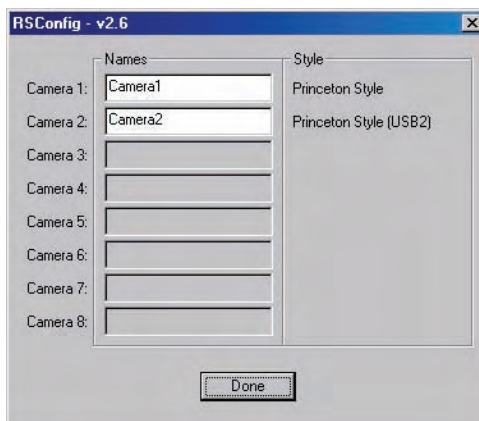

Figure 46. RSConfig dialog box: Two Camera Styles
4. When the RSConfig dialog box (Figure 46) appears, you can change the camera name to one that is more specific or you can keep the default name "Camera2". When you have finished, click on the **Done** button.